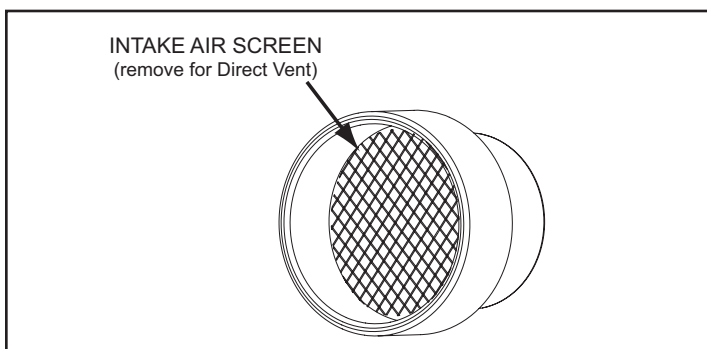

Figure 17. Intake Air Screen
12. Ensure the Intake Air Screen on the Intake Air Connection is removed before connecting the intake air pipe to the water heater. See **Figure 17**.